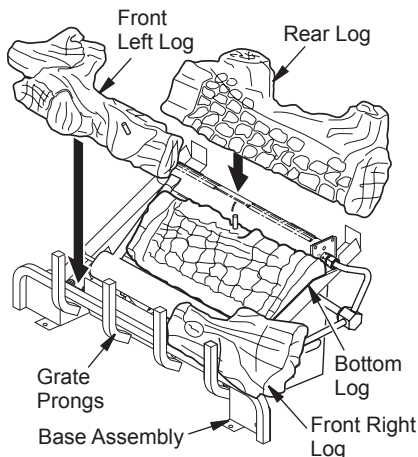

Figure 24 - Installing Bottom Logs
1. Place bottom log in center of the base assembly as shown in Figure 24.
2. Rest rear log in back corner sections of base assembly as shown in Figure 24. Make sure log is completely vertical and not leaning in toward burner where the flame will touch the log.
3. Position front right log against right side of grate prongs (see Figure 24).
4. Position front left log against left side of grate prongs (see Figure 24).